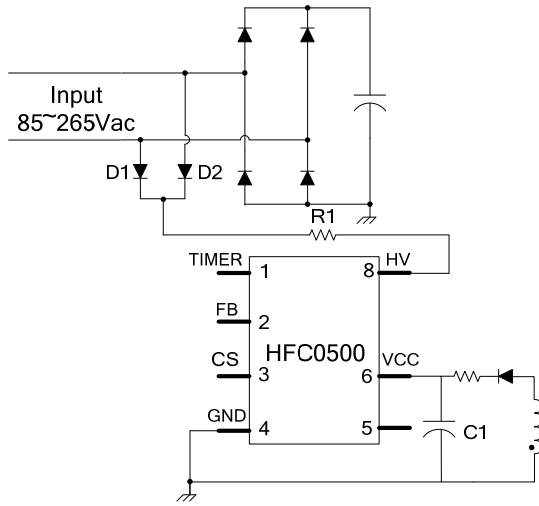

Figure 12: Start-Up Circuit
Figure 12 shows the start-up circuit. The values of R1 and C1 determine the system start-up delay time: a larger R1 or C1 increases the start-up delay. The V_{CC} duration (from V_{CC,OFF} to V_{CC,SS}) for brown-out detection should exceed half of the input period, equation (4) provides an estimated value for the V_{CC} capacitor, where I_{CC(noswitch)} is the internal consumption (close to I_{CClatch}), and T_{input} is period of the AC input. For most applications, choose a V_{CC} capacitor value that exceeds 10μF.